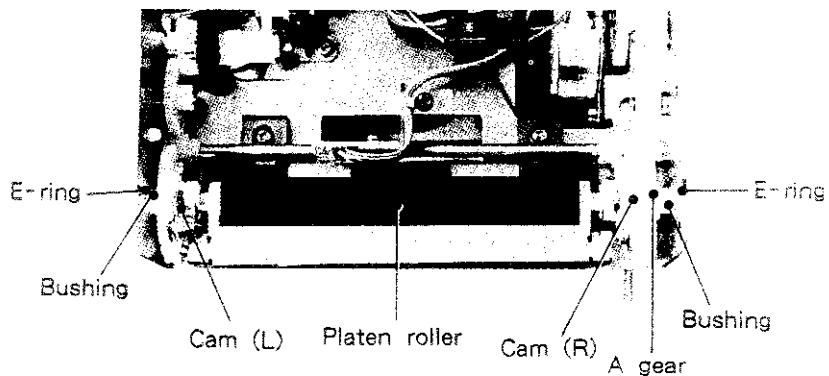

Fig. 2-14
10. Remove the E-rings (both sides) retaining the platen roller. (Fig. 2-14)
11. Remove the bushings (both sides). (Fig. 2-14)
12. Remove the cam (L), cam (R) and the A-gear. (Fig. 2-14)
13. Remove the guide sub. (Fig. 2-14)
7. Remove the platen roller. (Fig. 2-14)